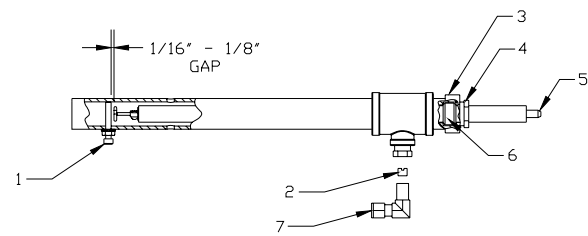

Figure 9 Pilot Spark Igniter Assembly
9. Pilot spark igniter assembly. For further detail see Figure 9.